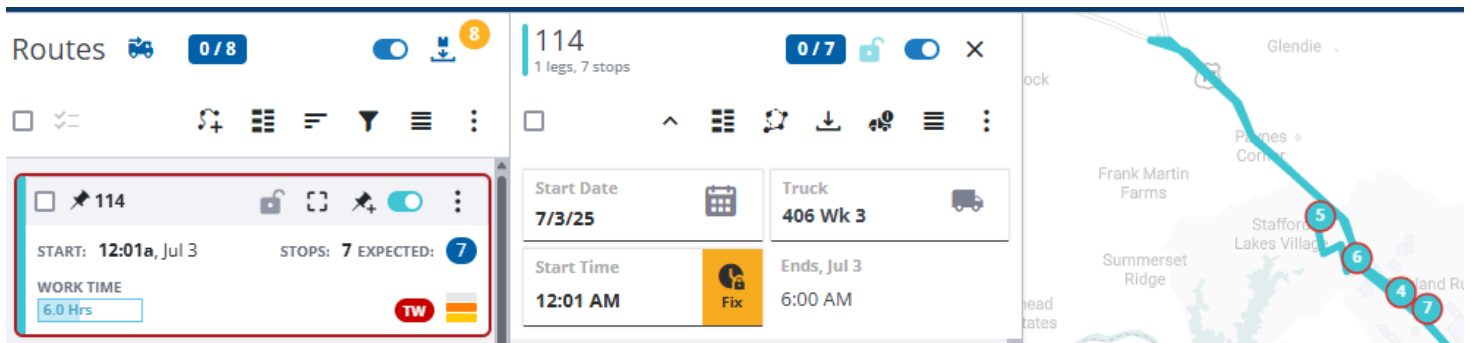

Figure 75 - Stop card for Route 114 - Future Route with expected Stops
1. Click on the Route that needs to be renamed to open its Stops list (See *Figure 75* above).